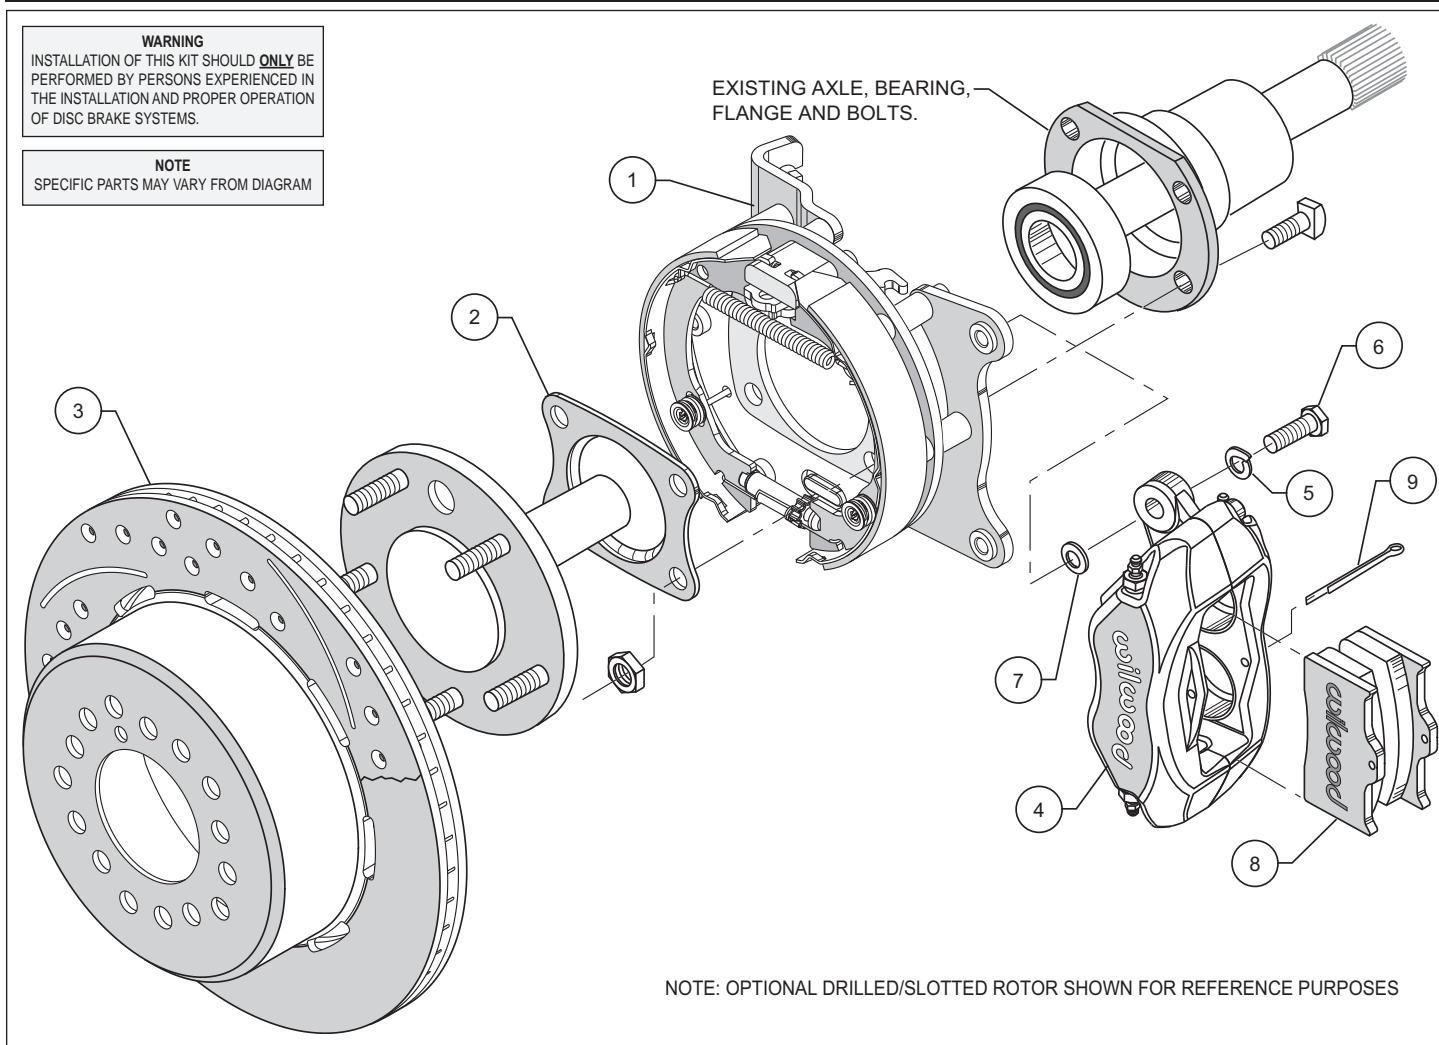

Figure 1. Typical Installation Configuration
- Full Circle Retainers** require the utilization of a qualified machine shop to press off the axle bearing and OEM retainer. Then have machine shop install new retainer (2), supplied with bracket kit with lip facing toward bearing, reference Figures 1, 4 and 5 (we suggest that you install a new bearing at this time, not supplied with kit).
- B. **“U” Retainers** require the removal of the OEM retainer by cutting or grinding a notch in the retainer to facilitate removal. Once OEM retainer is removed, install new retainer (2) supplied with bracket kit with the “U” opening facing up and the lip facing toward bearing, reference Figures 1, 4 and 5.